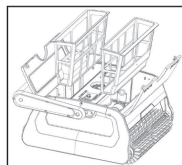

Figure 5
- Insert the cleaned filter baskets (see Figure 5). Pay attention to the correct installation position.